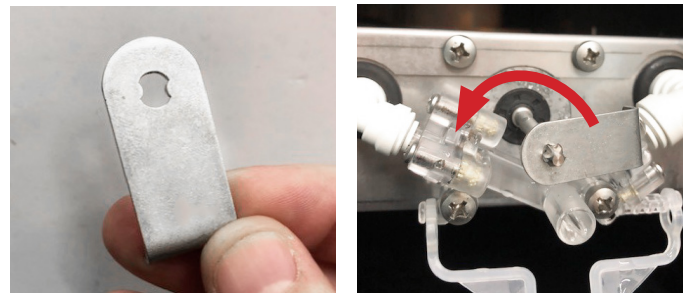

FIGURE 2 - Place Tool onto Motor Shaft
5. Place tool onto motor drive shaft as shown with bent part facing away from you. (See Figure 2)